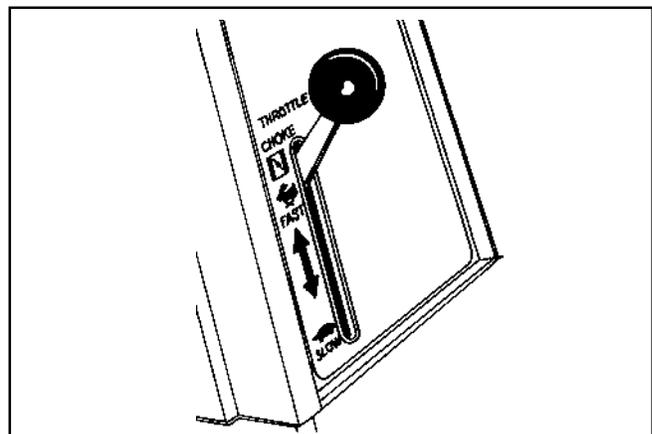

Figure 5. Throttle Position for Starting Engine with Single-Lever Control.
1. a. **For a Single-Lever Throttle/Choke Control:** Place the lever into "fast/choke on" position. See Figure 5.